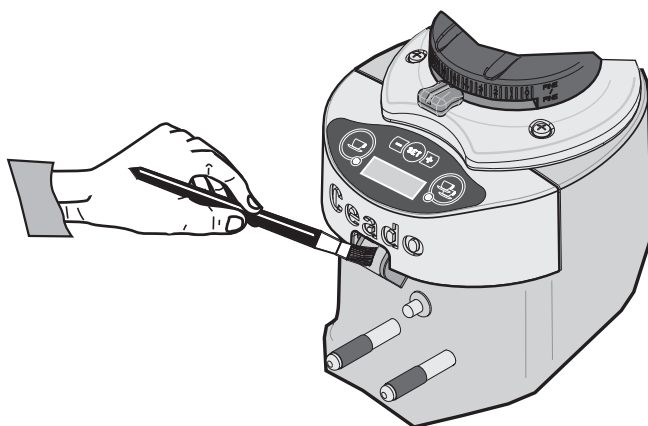

Fig. 6
- Always clean the discharge opening with the brush provided (Fig. 6).